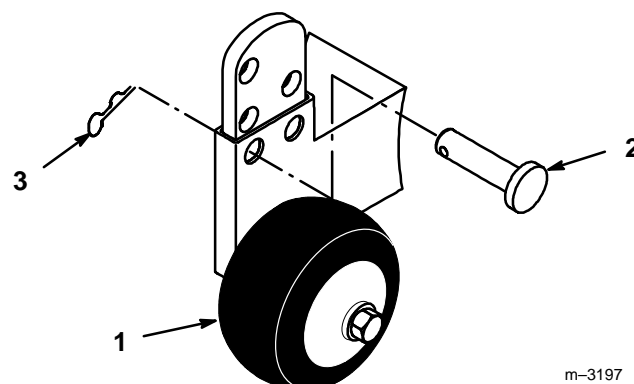

Figure 7
2. Remove hairpin cotter and pin to change hole location (Fig. 7).
3. Select a hole position so the gage wheel is 3/8" (9.5 mm) off the ground for the height-of-cut to be used (Fig. 7).